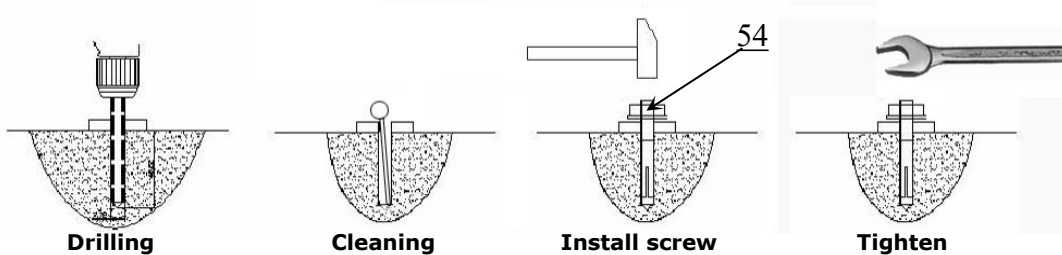

Fig. 24
3. Install the control cabinet anchor bolt (See Fig. 24)